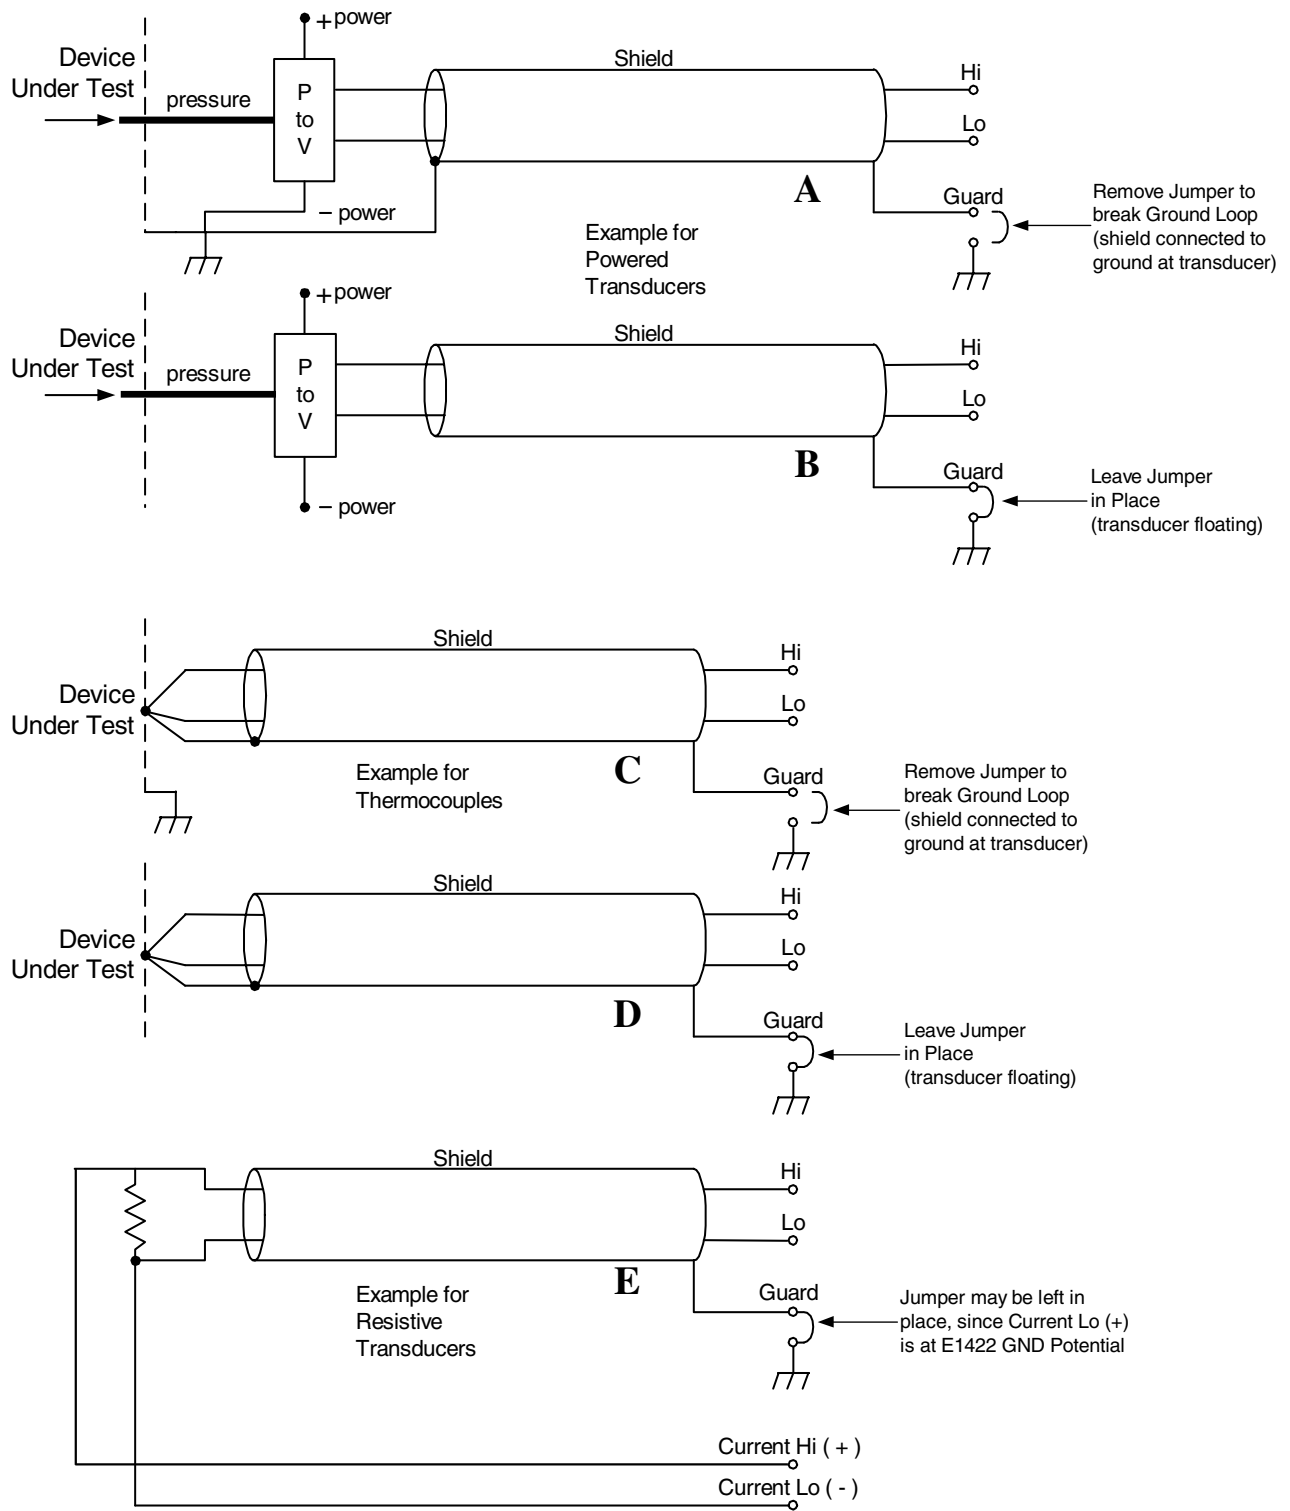

Figure 2-9. Preferred Signal Connections
For any A/D Module to scan channels at high speeds, it must use a very short sample period ($<10 \mu\text{second}$ for the E1422A). If significant normal mode noise is presented to its inputs, that noise will be part of the measurement. To make quiet, accurate measurements in electrically noisy environments, use properly connected shielded wiring between the A/D and the device under test. Figure 2-9 shows recommended connections for powered transducers, thermocouples, and resistance transducers. (See Appendix E page 481 for more information on Wiring Techniques.)
- a. **Grounded Transducer with shield connected to ground at the transducer:** Low frequency ground loops (DC and/or 50/60 Hz) can result if the shield is also grounded at the Terminal Module end. To prevent this, remove the GND-GRD jumper for that channel (Figure 2-9 A/C).
- b. **Floating Transducer with shield connected to the transducer at the source:** In this case, the best performance will most likely be achieved by leaving the GND-GRD jumper in place (Figure 2-9 B/D).